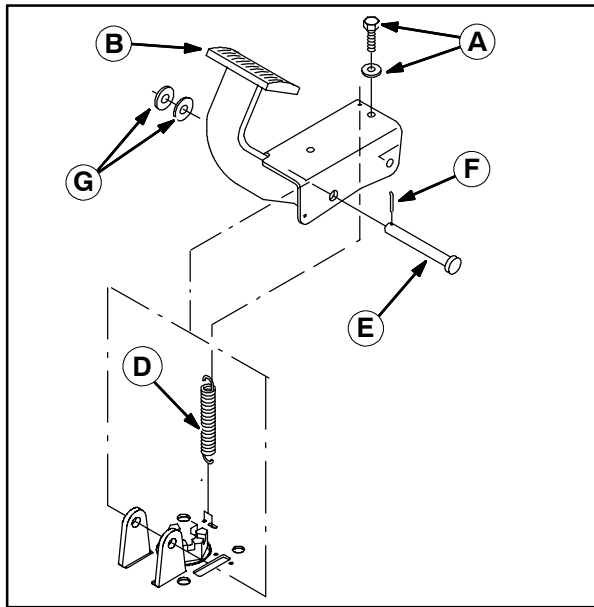

FIG. 17
26. Use hardware (A) to reinstall the brake pedal assembly (B) onto the machine. Refer to Fig. 17.
27. Use cotter pin (F), clevis pin (E), and washers (G) to attach the brake pedal assembly (B) to the machine. Refer to Fig. 17.
28. Connect the extension spring (D) from the brake pedal assembly (A). Refer to Fig. 17.